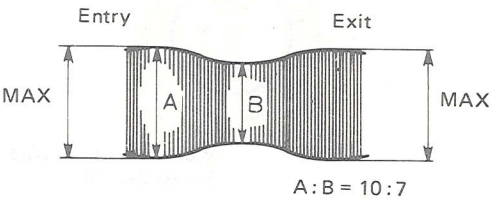

Figure 30
- 5. Adjust so that when the tracking control is shifted (when the tracking control is moved and A of the RF waveform begins to decline), the ratio between A and B in Figure 30 is better than  $A:B = 10:7$ .